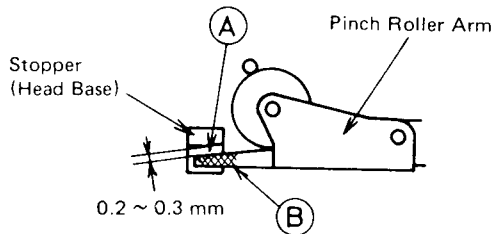

Fig. 17
- In the playback mode, the clearance (A) between the pinch roller arm and the stopper of head base should be within 0.2 to 0.3 mm.
If the clearance is beyond the limits, bend the part (B) of pinch roller arm to adjust the clearance as shown in Fig. 17.